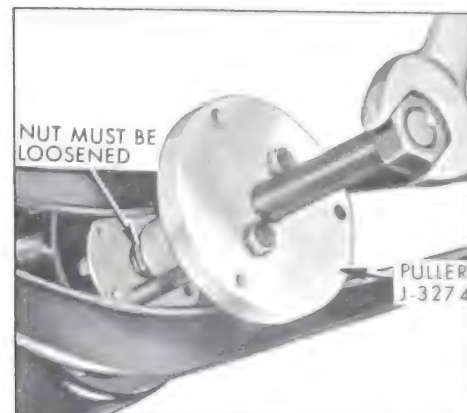

Figure 8-7—Removing Steering Wheel
4. Attach Puller J-3274 to wheel hub and pull wheel up to nut. See Figure 8-7. If wheel hub is very tight on shaft, apply a moderate strain with puller then tap end of puller screw to break hub loose from shaft without distorting wheel hub. Remove puller, nut, and steering wheel.